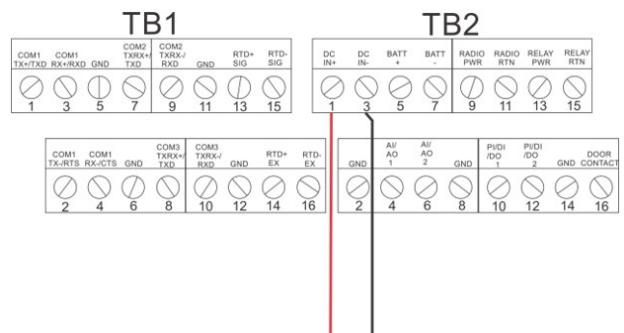

Figure 8. Wiring to DC Power Supply
- Insert each bare wire end into its appropriate connector and secure the wire (see Figure 8).